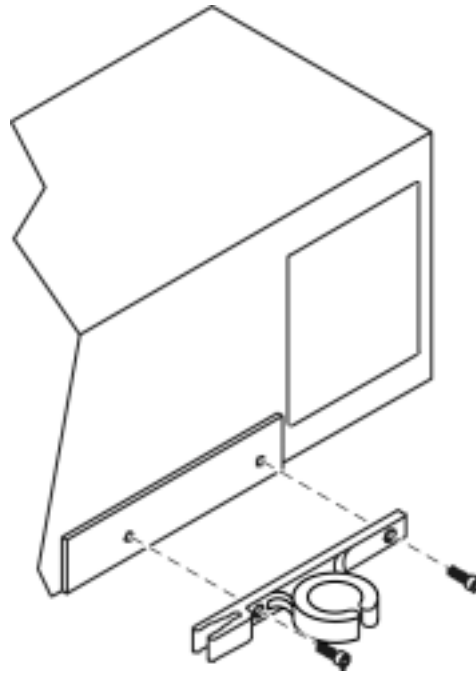

Figure 8: Filter Mounting Bracket Removal
4. Remove the filter mounting bracket from the cover assembly, using a 1/4 inch hex driver. See Figure 8.